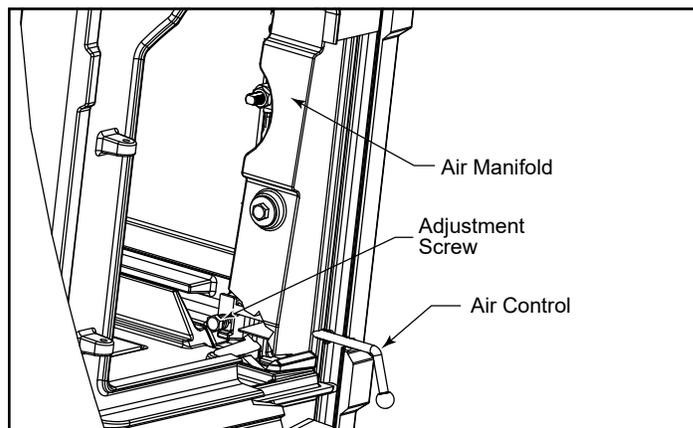

Figure 34 - Primary air control adjustment.
Over time, the air control may tighten or loosen. To adjust the tension on the control, let the stove cool to room temperature. Open the side-loading door and look in toward the inner side of the front panel of the stove. (Figure 34) Locate the lower hex head bolts (A) on the primary air manifold rods on either side of the door. Adjust with a 7/16" wrench.
- Inspect for and remove ash build-up behind the combustion package. This should be done in conjunction with annual cleaning of the chimney connector since this inspection is most conveniently done through the flue collar opening. Inspect the passages to either side of the combustion package (a mirror will be helpful) and vacuum away ash using a flexible vacuum hose inserted into each passage. Care should be taken not to damage the white fibrous material in this rear chamber. (Figure 34)